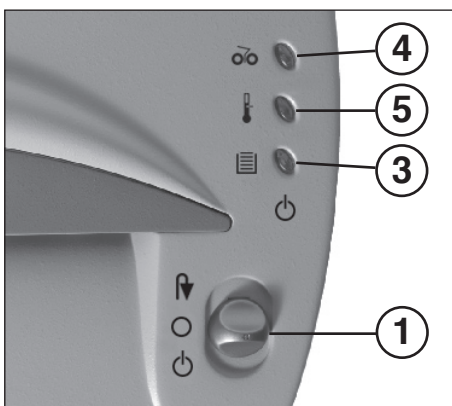

fig. 1
- 1 = Function switch (fig. 1) (on / off / reverse)**
- 3 = Pilot lamp (fig. 1)**
- 4 = Pilot lamp “material jam“ (fig. 1)**
- 5 = Pilot lamp “motor overload“ (fig. 1)**
- Turn the function switch (1) (fig. 1) in position „“ . The pilot lamp (3) (fig. 1) lights up (green).
Please make sure that the shredder is switched off over night (Turn the function switch (1) (fig. 1) in position „O“).
- The pilot lamp (4) (fig. 1) lights up.
- Turn the function switch (1) (fig. 1) **briefly** to position „R“ (material will be released), then in position „O“.
- The pilot lamp (4) (fig. 1) goes out.
**Paper jam in the paper feed slot (6)**
- Tear off the excess paper over the feed slot and then turn the function switch (1) (fig. 1) to position „O“.
**Material jam in the CD/DVD feed slot (7)**
- Turn the function switch (1) (fig. 1) in position „O“.